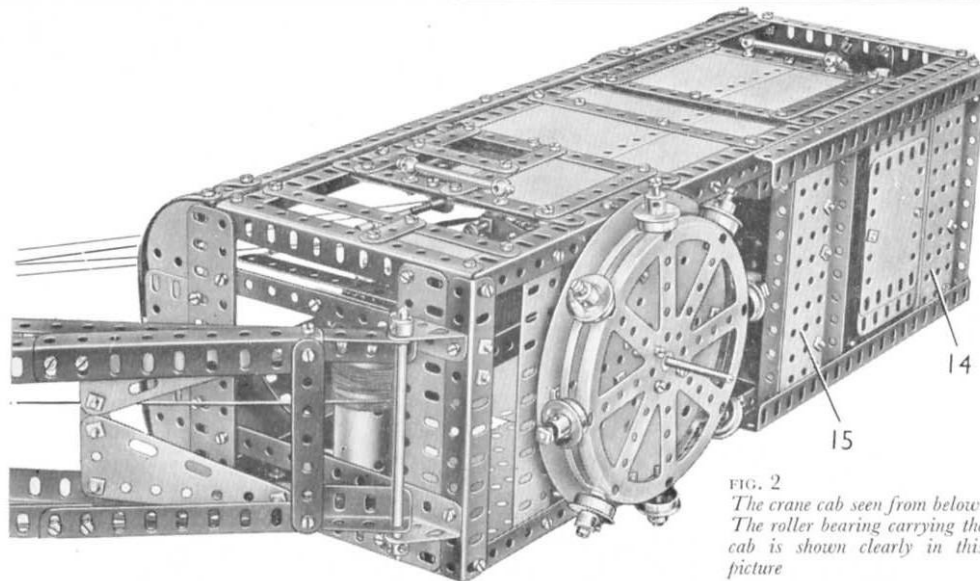
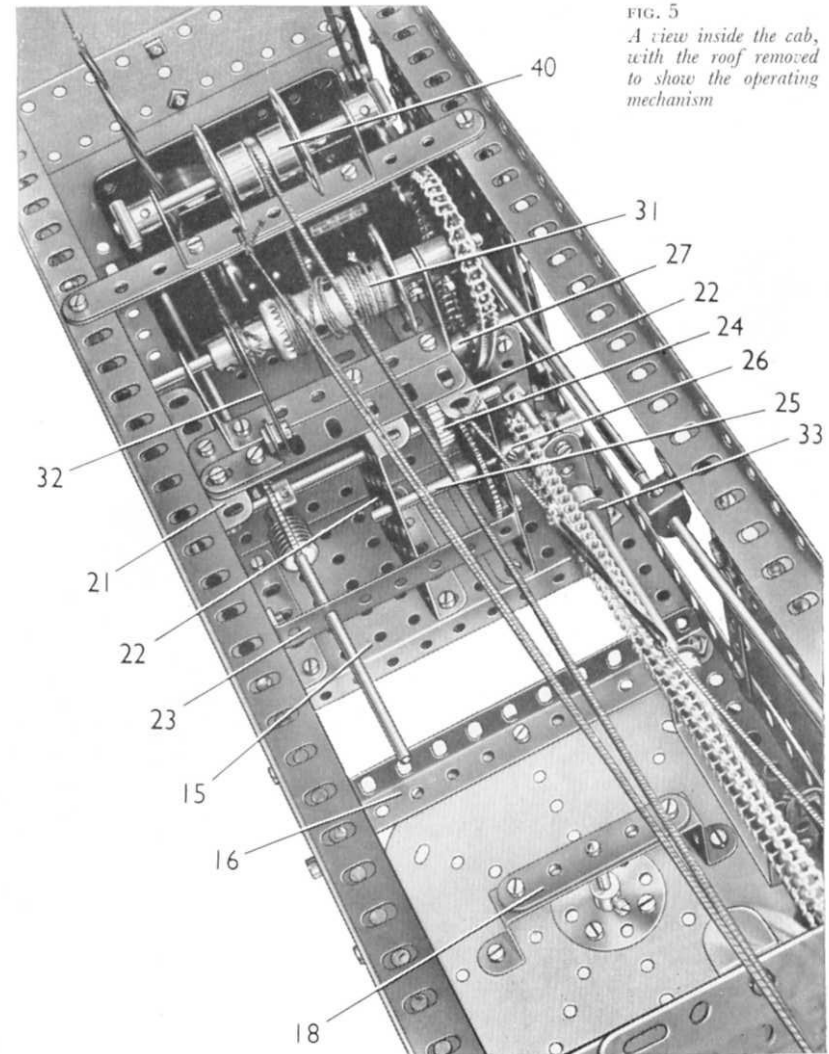
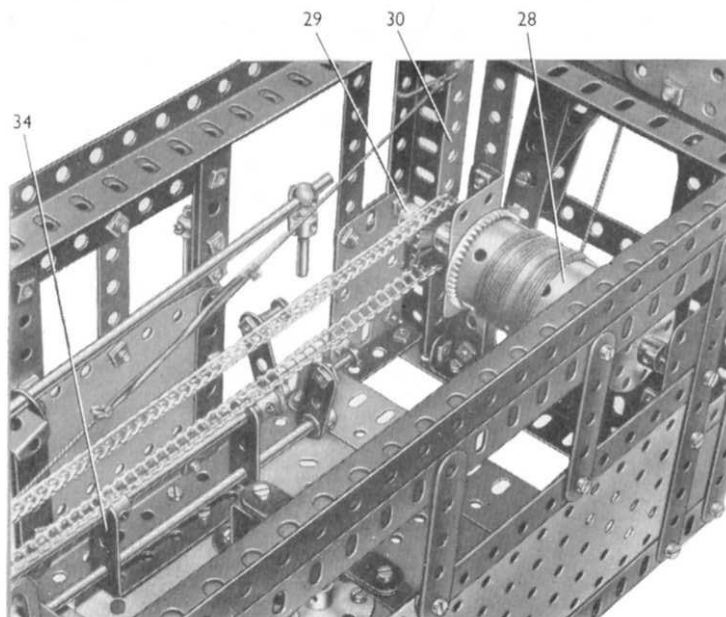
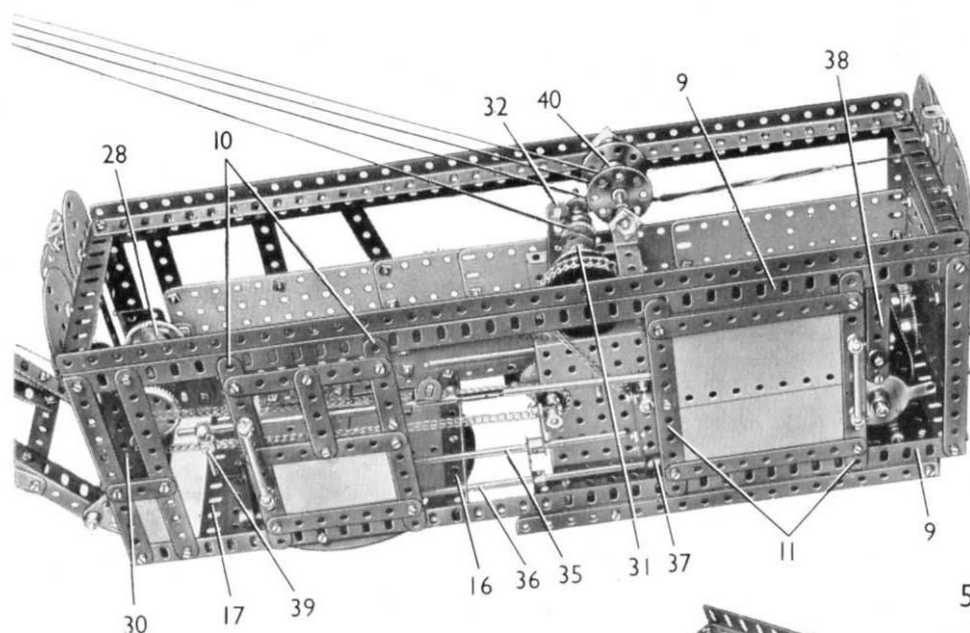

FIG. 2
FIG. 5 A view inside the cab, with the roof removed to show the operating mechanism
FIG. 6 The mechanism control levers and one of the winding drums are seen in this view
FIG. 8 The sliding doors, and the position of the E15R Electric Motor, can be seen in this view of the cab
The sliding door at the front end is made by bolting a  $3\frac{1}{2}$ "  $\times$   $2\frac{1}{2}$ " Flexible Plate and three  $3\frac{1}{2}$ " Strips between two  $5\frac{1}{2}$ " Strips (10) (Fig. 8.) A  $2\frac{1}{2}$ " Strip and a 3" Strip are attached to each Strip (10), but are spaced from it by a nut on each bolt. The ends of the Strips (10) are arranged in front of the Girders (9), and the 3" and  $2\frac{1}{2}$ " Strips are placed behind the Girders to form guides for the door.
Two  $5\frac{1}{2}$ "  $\times$   $2\frac{1}{2}$ " Flanged Plates (14) and (15) (Fig. 2) are fixed to the base of the cab and between them are a  $5\frac{1}{2}$ "  $\times$   $2\frac{1}{2}$ " and a  $5\frac{1}{2}$ "  $\times$   $1\frac{1}{2}$ " Flexible Plate. Two  $9\frac{1}{2}$ " Angle Girders are attached to the flanges of the Flanged Plates. Seven  $5\frac{1}{2}$ "  $\times$   $2\frac{1}{2}$ " Flexible Plates, fourteen  $4\frac{1}{2}$ "  $\times$   $2\frac{1}{2}$ " Flexible Plates and three  $3\frac{1}{2}$ "  $\times$   $2\frac{1}{2}$ " Flexible Plates are fixed to the floor between the Flanged Plates and act as a balance weight at the rear of the cab.
A 6" Circular Plate is bolted to the lower one of the Girders (9) and to the corresponding Girder of the other side, but it is spaced from them by a nut on each bolt. The Circular Plate is supported also by a  $5\frac{1}{2}$ " Angle Girder (16) and a  $5\frac{1}{2}$ " Flat Girder (17) strengthened by a  $5\frac{1}{2}$ " Strip. It is spaced from these parts by two nuts on each of the  $\frac{3}{8}$ " Bolts that joins them together. A Bush Wheel (eight holes) is bolted to the centre of the Circular Plate, and two 1" Reversed Angle Brackets fixed to the Plate support four  $2\frac{1}{2}$ " Strips (18) (Fig. 5).
The housing for the gear-box is made by bolting three  $3\frac{1}{2}$ "  $\times$   $2\frac{1}{2}$ " Flanged Plates, one of them numbered (21) and the other two indicated at (22), to the Flanged Plate (15) (Fig. 5). The top flanges of the Flanged Plates are connected by a  $3\frac{1}{2}$ " Flat Girder, to which is bolted a  $3"$   $\times$   $1\frac{1}{2}"$  Double Angle Strip. Two  $3\frac{1}{2}"$   $\times$   $\frac{1}{2}"$  Double Angle Strips are bolted to the Flanged Plate (21) and to one of the Flanged Plates (22). One of these Double Angle Strips is indicated at (23) and the other is attached in corresponding holes at the rear edges of the Flanged Plates (21) and (22).
An E15R Electric Motor is bolted to the Flanged Plate (14) (Fig. 2). A 50-tooth Gear on the armature shaft engages a  $\frac{3}{4}"$  Pinion on an  $11\frac{1}{2}"$  Rod. This Rod is mounted in the Motor side-plates and in the Double Angle Strips (23), and it carries a Worm that drives a 57-tooth Gear on a 4" Rod supported in the Flanged Plates (21) and (22). A  $\frac{3}{4}"$  Pinion (24) is fixed on this Rod. Two 3" Rods (one of them is seen at (25) Fig. 5), are mounted in the Flanged Plates, and each of them is fitted with a 50-tooth Gear that can be engaged with the Pinion (24) by sliding the Rod. Rod (25) is fitted with a  $\frac{3}{4}"$  Sprocket (26), and the other 3" Rod carries a  $\frac{3}{4}"$  Sprocket 27.
Sprocket (26) is connected by Chain to a 1" Sprocket on a  $4\frac{1}{2}$ " Rod. This Rod is mounted in Girder Brackets bolted to the front of the cab, and it carries a winding drum (28) made from a Cylinder clamped between two  $1\frac{1}{2}$ " Contrates. A  $\frac{1}{2}$ " Pulley (29) is fixed on one end of the Rod and a  $5\frac{1}{2}$ " Strip (30) engages in its groove (Fig. 6). The Strip is *lock-nutted* to a  $1" \times \frac{1}{2}"$  Angle Bracket bolted to the base of the cab as shown. A length of Cord is tied to the top end of this Strip and to a Driving Band, which is stretched slightly and is connected by a length of Cord to one of the Flanged Plates (22). This arrangement provides a constant braking action on the winding drum.
A  $3" \times 1\frac{1}{2}"$  Double Angle Strip (33) is bolted to the Flanged Plate (15) (Fig. 5), and a  $2\frac{1}{2}" \times 1\frac{1}{2}"$  Double Angle Strip (34) (Fig. 6), is spaced from the 6" Circular Plate by a nut on the bolt that holds it in place. These Double Angle Strips support an 8" Rod (35) and an  $11\frac{1}{2}"$  Rod (36). Each of these Rods carries at its front end a Crank fitted with a Pivot Bolt that forms a control handle. A Crank (Fig. 8) is fixed on Rod (35), and a  $\frac{3}{8}"$  Bolt fixed in the Crank engages between two Collars on the end of rod (25). A Crank (37), extended upward by a 2" Strip fitted with a  $\frac{3}{8}"$  Bolt, is fixed on the Rod (36). The  $\frac{3}{8}"$  Bolt engages between two Collars on the Rod that carries the Sprocket (27).
A  $3\frac{1}{2}"$  Strip (38) (Fig. 8) is *lock-nutted* at its upper end to an Angle Bracket bolted to the upper one of the Girders (9). The lower end of Strip (38) is *lock-nutted* to an arm of the E15R Electric Motor switch. A Rod and Strip Connector is *lock-nutted* to the Strip (38), and is fitted with an 8" Rod joined to a  $6\frac{1}{2}"$  Rod by a Rod Connector. The  $6\frac{1}{2}"$  Rod is supported by a Corner Angle Bracket bolted to the side of the cab, and it carries a handle (39) formed by a 1" Rod held in a Handrail Coupling.
#### Arrangement of the Jib Luffing and Load Hoisting Cords (Figs. 8 and 10)